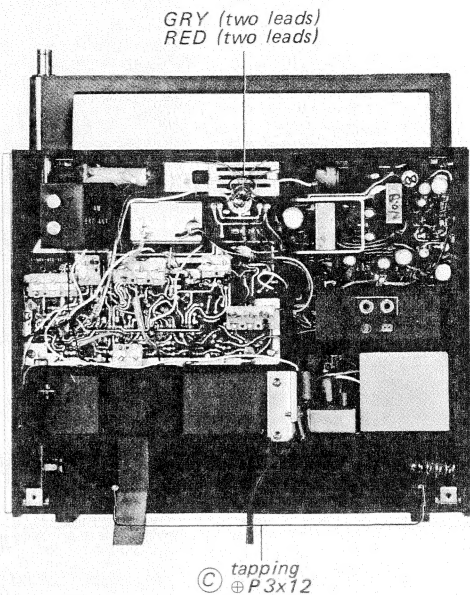

Fig. 2-3. Chassis removal
5. Unsolder the four lamp leads, GRY and RED, shown in Fig. 2-3.
6. Remove the two screws marked (C) in Fig. 2-3.